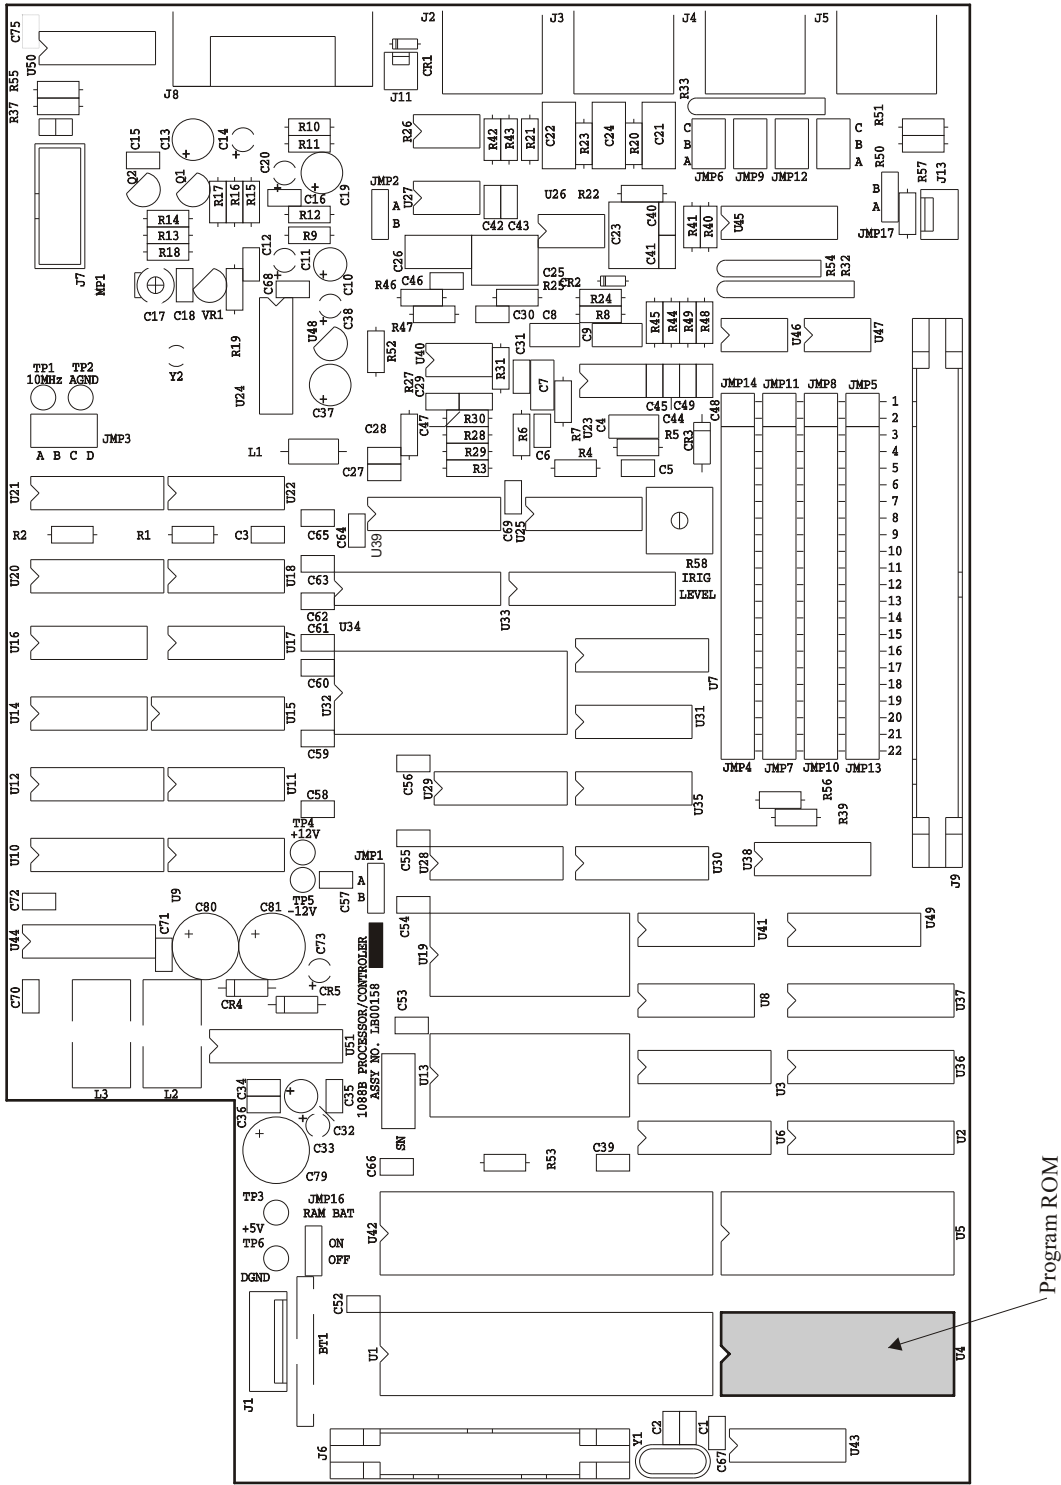

Figure 1: Model 1088A/B Mainboard, showing program ROM location.
1. The program ROM is located at U4 (see Figure 1).